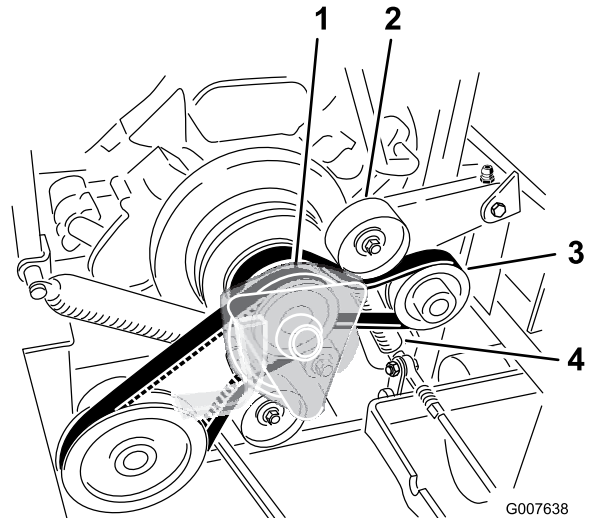

Figure 67
3. Remove the spring from the idler arm (Figure 67).
4. Install the new belt around the engine and hydraulic pump pulley (Figure 67).
6. Install the spring to the idler arm (Figure 67).